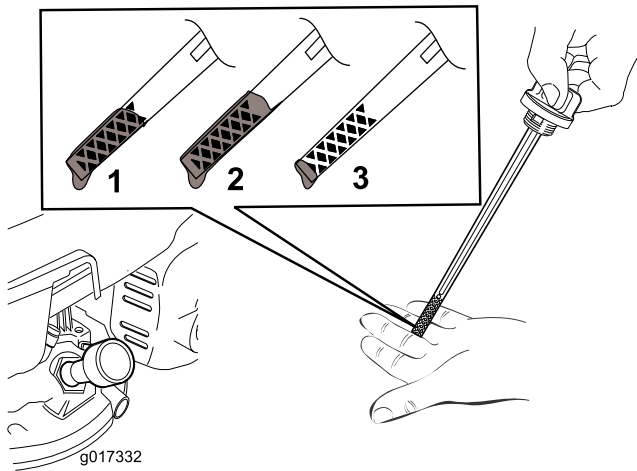

Figure 20
**Note:** Fill the engine crankcase with oil until the dipstick indicates that the engine oil level is correct as shown in (Figure 20). If you overfill the engine with oil, remove the excess oil as directed in 5.